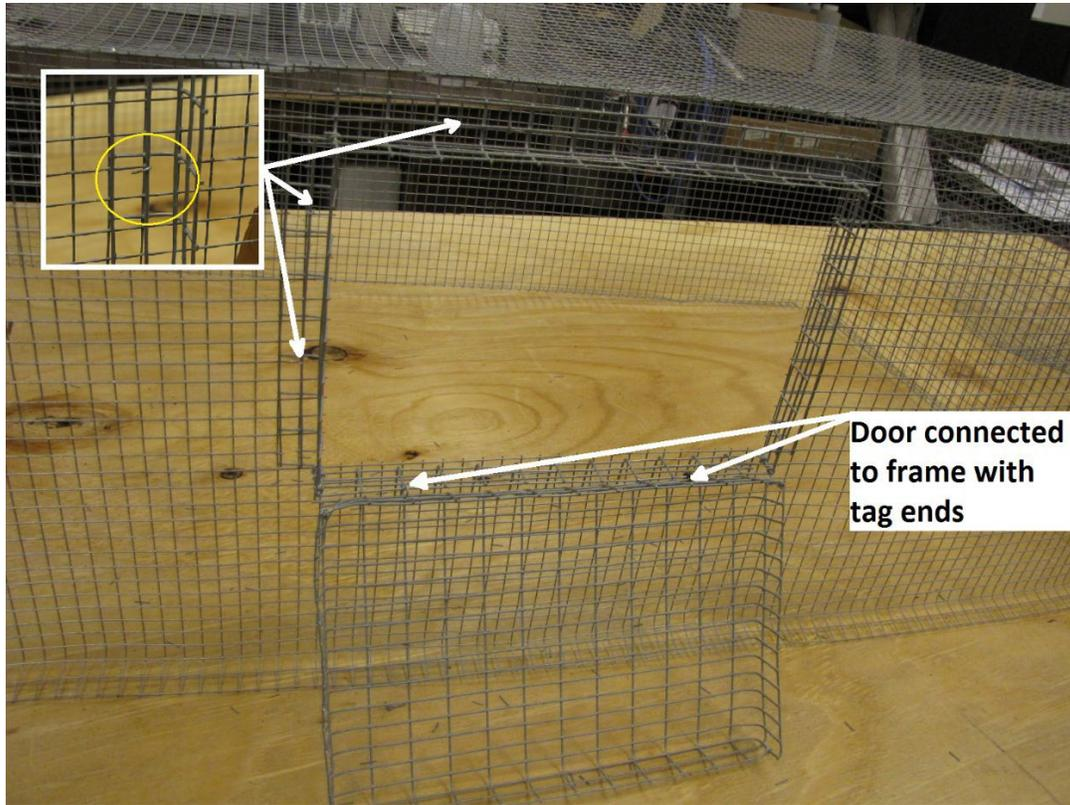

Figure 1-38
4. Attach frame to side of trap, centered, 2" down from top. Cut  $\frac{1}{2}$ " X  $\frac{1}{2}$ " wire to create tag ends and use them to attach frame (Figure 1-38 insert). Use tag ends from door to attach it to the frame and act as hinges. Some adjustments may be needed to get the door to fit properly in the frame (Figure 1-38).